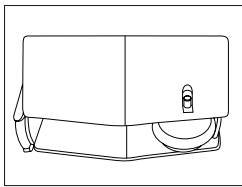

Figure 1
**Important:** The 3M Profile application tool is a dual-purpose tool. There are two sides of the tool. Each side has a specific purpose. The guide plate side locates the 3M Profile into position and the roller side provides pressure to completely bond the adhesive to the window and frame. (Figure 1)